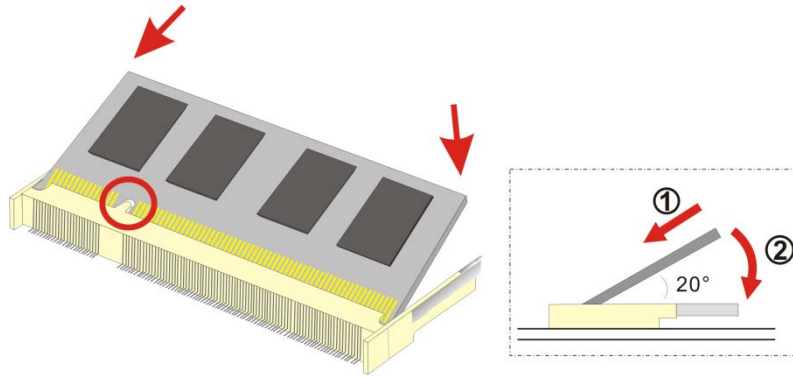

Figure 4-2: SO-DIMM Module Installation
- Step 5:** Install the new SO-DIMM module by pushing it into the socket at an angle (**Figure 4-2**).
- Step 6:** Gently push the rear of the SO-DIMM module down (**Figure 4-2**). The spring retainer clips clip into place and secure the SO-DIMM module in the socket.